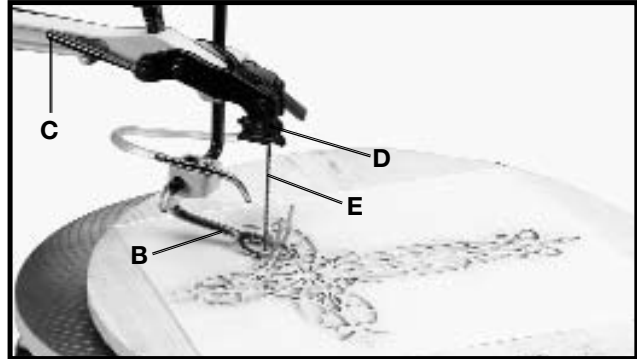

Fig. 38
Place blade (E) Fig. 38, back into the upper blade holder and tighten blade by moving lever (D) forward. Move tension lever (C) to the rear as shown and lower spring holddown (B). You are ready to make the next inside cut.